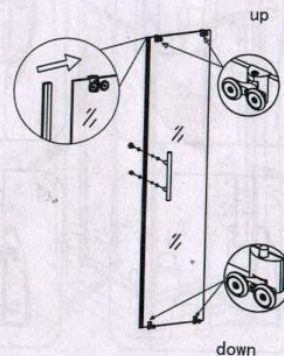

fig 12
11. Install handles(5) and magnetic strips (7) on the door glass(3). (fig 12)